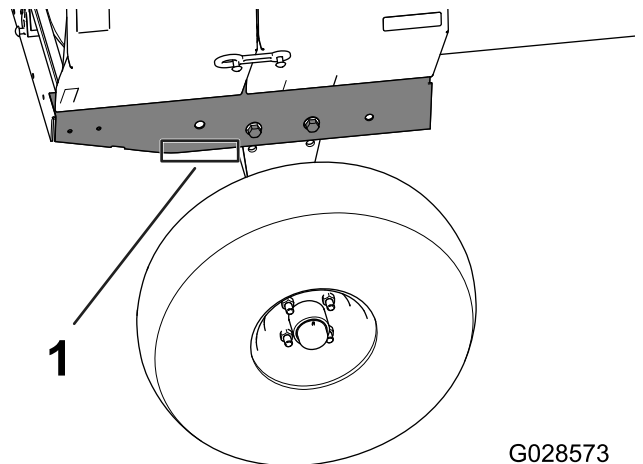

Figure 23
3. Use a jack stand at each support point on the rear frame extension (Figure 23).